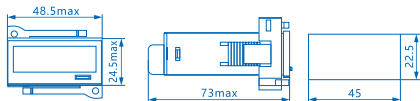
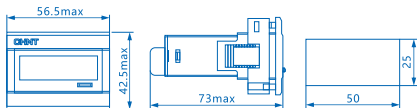

Figure 1 Outline and Installation Size of the Normal Type
Figure 2 Outline and Installation Size of the Extension Panel Type
3.1 Outline and installation size: see Figure 1~ Figure 2, unit: mm.